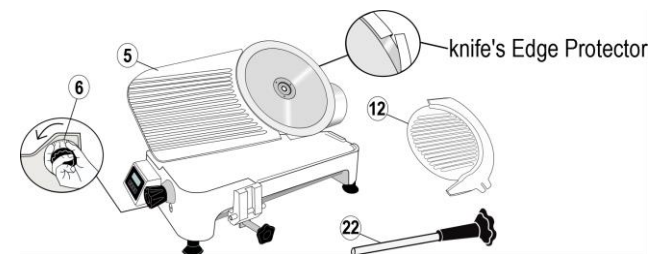

FIG 1. HOW TO REMOVE THE KNIFE'S EDGE PROTECTOR
- 1 Sharpener box (13)
C.- Take out the carriage assembly. Do the same with the base unit Assy by lifting from the base (10), (exercise proper lifting method, preferably do this procedure with two persons).
E.- Remove the knife edge protector by following the next instructions (See Fig. 1):
- Rotate the slice adjusting knob (6) counter clockwise until it stops.
- Remove the knife guard plate (12) by loosening the knife guard knob (22).
- Once the knife edge protector is removed, Assemble again the knife guard plate (12) and assure it with the knife guard knob (22). Close the thickness gauge plate (5) by rotating the slice adjusting knob (6) clockwise fully.